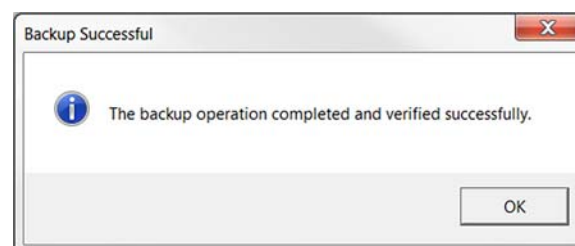

Figure 8-3. Backup Success
5. Press . *Performing Backup* displays momentarily, then Figure 8-3.